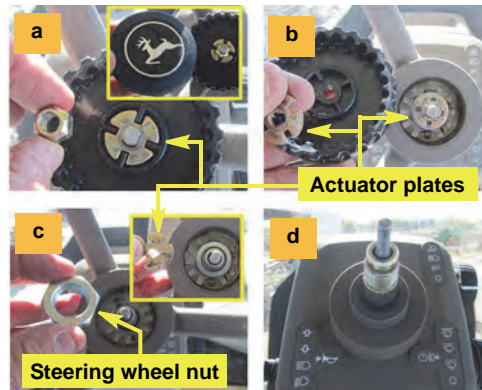

Figure 3 (a-d): Removing the steering wheel
- The steering wheel center cap (Figure 3-a inset) and the actuator assembly retaining nut (you will reuse this - Figure 3-a).